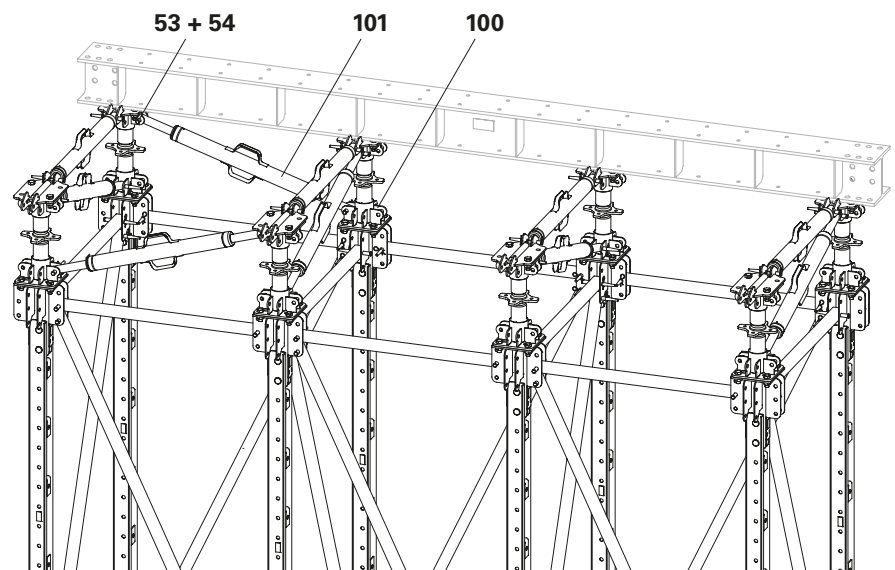

Fig. A1.38
5. Mount the Heavy-Duty Spindle SLS 100/180 (**101**) as bracing on the Spindles ATS 360-550 (**100**) using 2x fitting pins  $\varnothing$  21 x 120 (**53**) and secure with cotter pin 4/1 (**54**). (Fig. A1.38)